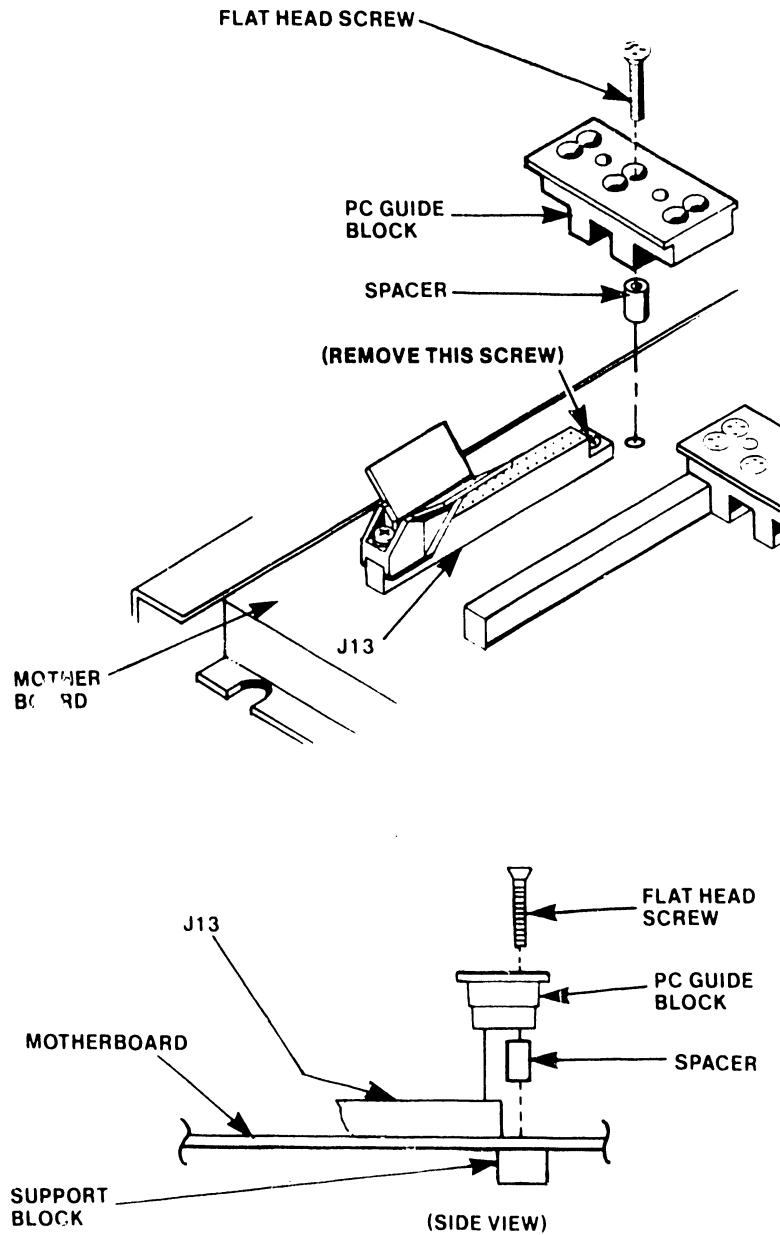

Figure 4-17 PC Guide Block Installation (105/115/125A/130A Only)
3. As shown in Figure 4-17, two Phillips-head screws secure connector J13 (identified as connector number 1 on some 140/145 Masters) to the motherboard. Remove the rearmost screw from the connector.